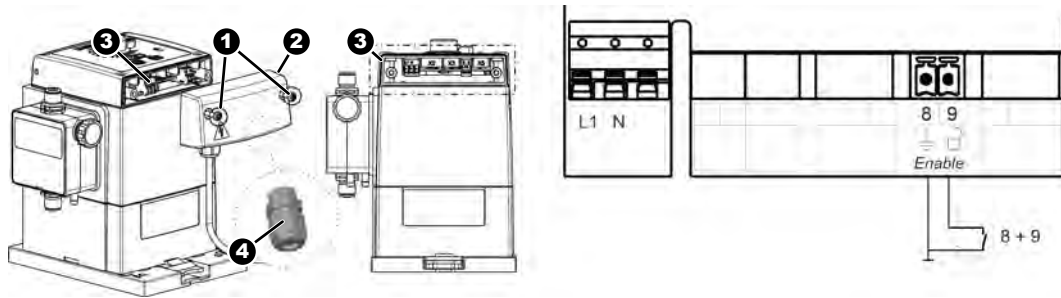

Fig. 8: Electrical installation of 'EcoPro'
1. ➤ Remove both housing screws (Fig. 8 , 1).
2. ➤ Remove the terminal cover (2).
3. ➤ For connecting the enable input, fit the cable union (4) from the pump accessories pack.